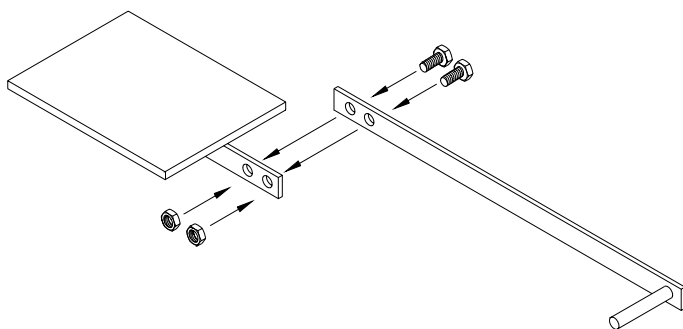

Figure 2.4.3
7. Attach air control plate extension as shown in Fig 2.4.3 and 2.4.4 using $\frac{1}{4}$ x 1 hex cap screws (also shipped in the firebox).